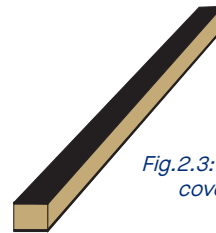

Fig.2.3: Dunnage must be covered in rubber.
- ✓ **All intermediate dunnage is to be rubber covered dunnage only.** Rubber is to be attached to the timber & covering at least 90% of two opposing faces. (Fig.2.3)